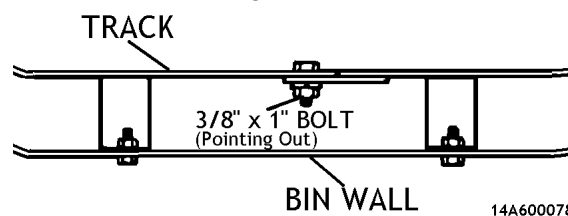

Figure 5 - Top View of Track Splice
- A5 Mount remaining track sections using steps A2-A4, joining track sections together with 3/8" x 1" bolt and 3/8" lockwasher and nut. Tighten using 9/16" wrench. **Figure 5.**
- B4 Mount remaining track sections using steps B2-B3, joining track sections together with 3/8" x 1" bolt and 3/8" lockwasher and nut. Tighten using 9/16" wrench. **Figure 5.**
- C6 Mount remaining track sections using steps C2-C5, joining track sections together with 3/8" x 1" bolts and 3/8" lockwashers and nuts. Tighten using 9/16" wrench. **Figure 5.**